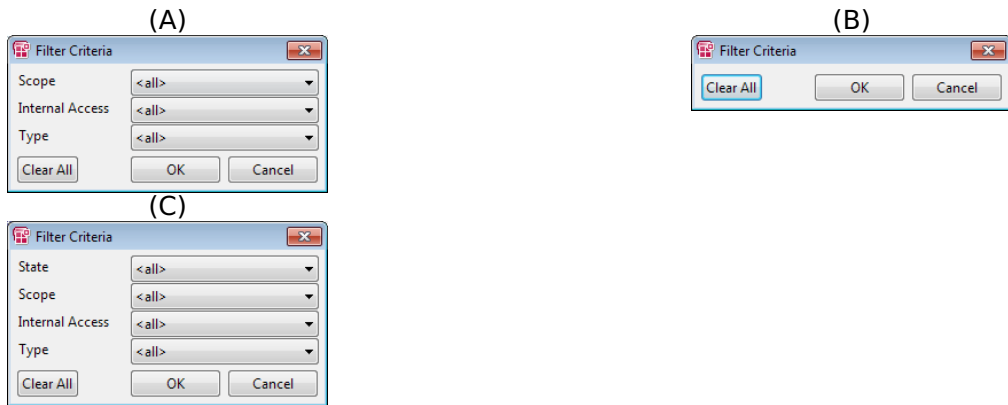

Figure 3.20: "Filter Criteria" windows
- i. In the column you want to filter, click on the  button. The respective "Filter Criteria" dialog window (Figure 3.20 on the next page) opens.